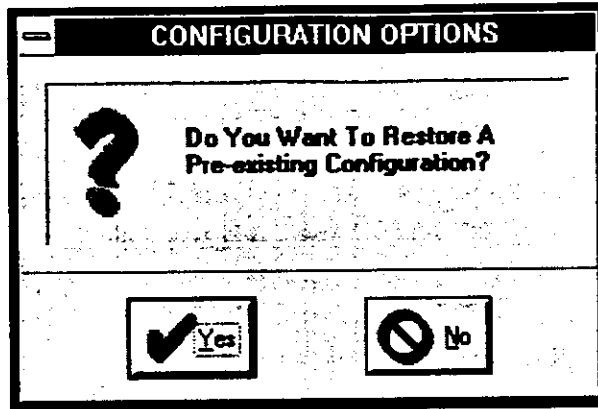

Figure 2-16. CONFIGURATION OPTIONS Dialog
- b. Observe that the CONFIGURATION OPTIONS dialog (Figure 2-16) appears on the monitor.